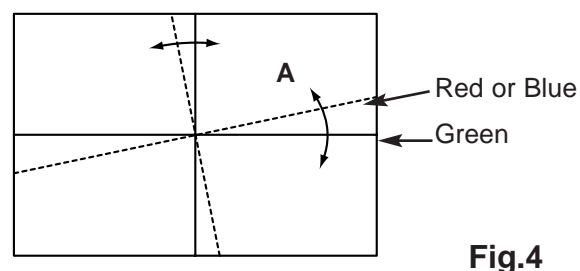

Fig.4
3. Turning the screw "A", align so that the Red (or Blue) horizontal lines are parallel to the Green horizontal lines (**Fig.4**).